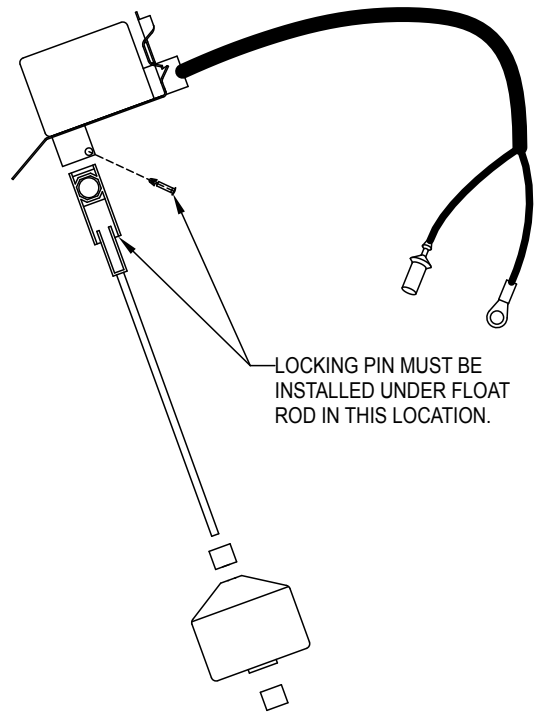

FIGURE 5
9. Assemble the float assembly per figure 5.